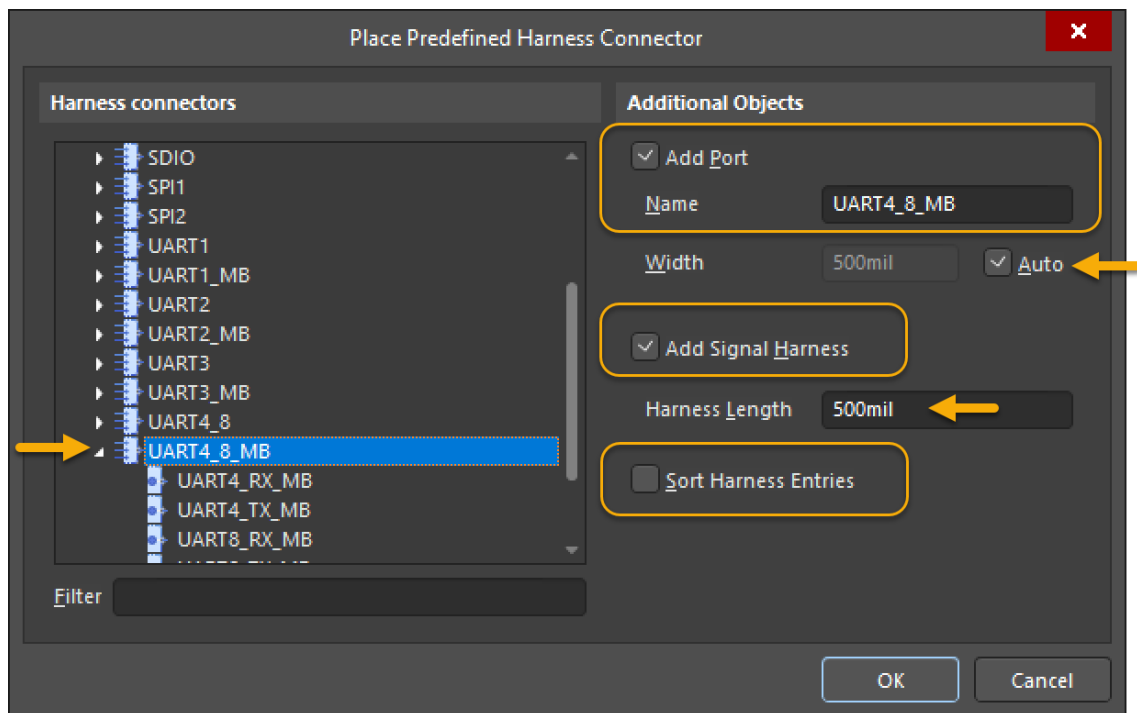

Figure 13. Select and Configure the Predefined UART4\_8\_MB
- b) As we want to transfer the signal to another schematic sheet, its recommended to use the **Add Port** option. So we will enable this option as shown in Figure 13.